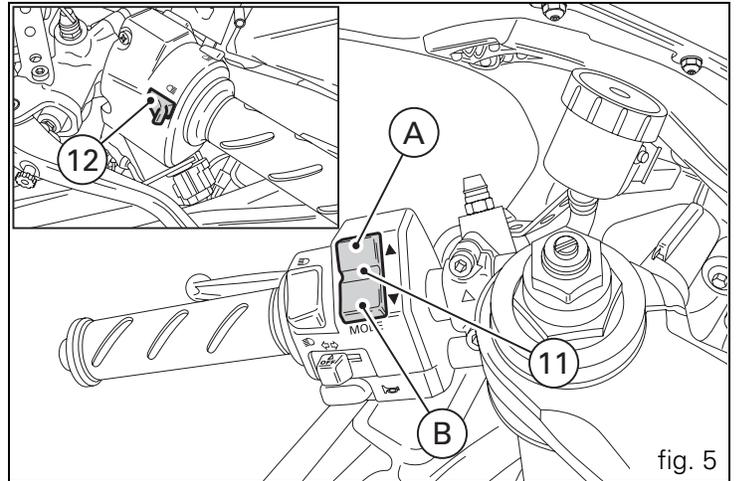

fig. 5
12) High beam headlight FLASH button (fig. 5).